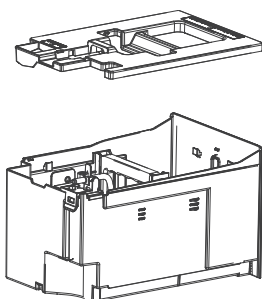

Fig. 9
- Take out the side access tank from the unit and remove the bucket top cover. (as shown as Fig. 9)